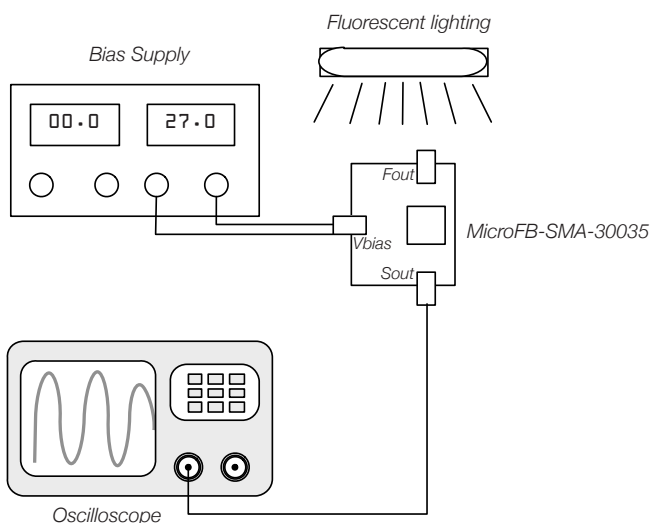

Figure 3, Experimental arrangement for observation of the mains frequency in fluorescent lighting.
- Using Figure 3 as a reference, connect one of the SMA-to-BNC cables to the V_{bias} SMA on the MicroFC-SMA-30035 board, and the other end to the bias supply, using the banana plug adapter if needed.